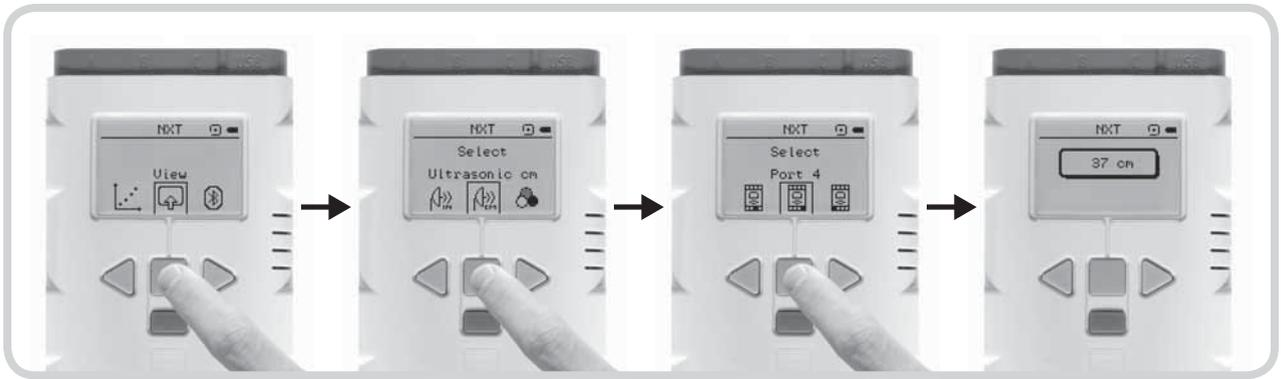

Figure 6-5: Polling a sensor with the View menu
1. Turn on your NXT, navigate to the View menu (Figure 6-5), and select the sensor you want to poll.